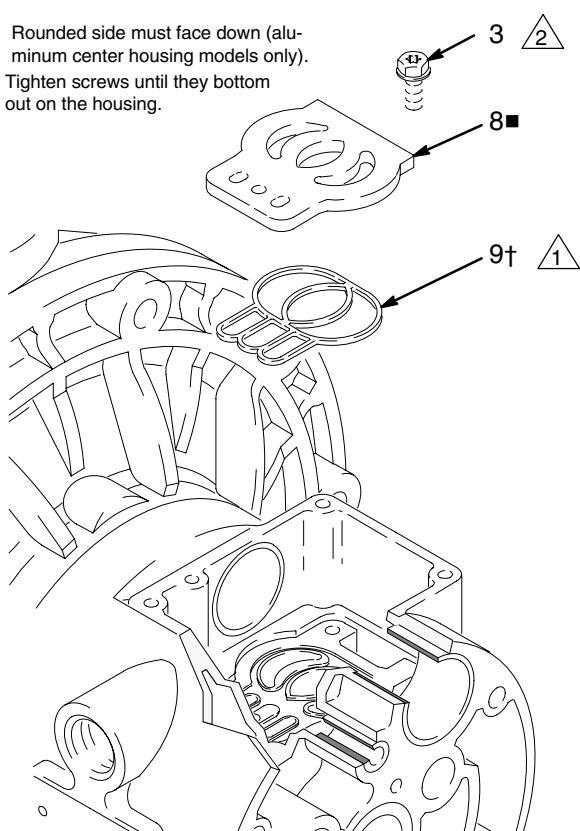

Fig. 9
5. Inspect the valve plate (8■) in place. If damaged, use a Torx (T20) screwdriver or 7 mm socket wrench to remove the three screws (3). Remove the valve plate (8■) and, on aluminum center housing models, remove the seal (9†). See Fig. 9.
2. On aluminum center housing models, install the valve plate seal (9†) into the groove at the bottom of the valve cavity. The rounded side of the seal **must face down** into the groove. See Fig. 9.
3. Install the valve plate (8■) in the cavity. On aluminum center housing models, the plate is reversible, so either side can face up. Install the three screws (3), using a Torx (T20) screwdriver or 7 mm socket wrench. Tighten until the screws bottom out on the housing. See Fig. 9.